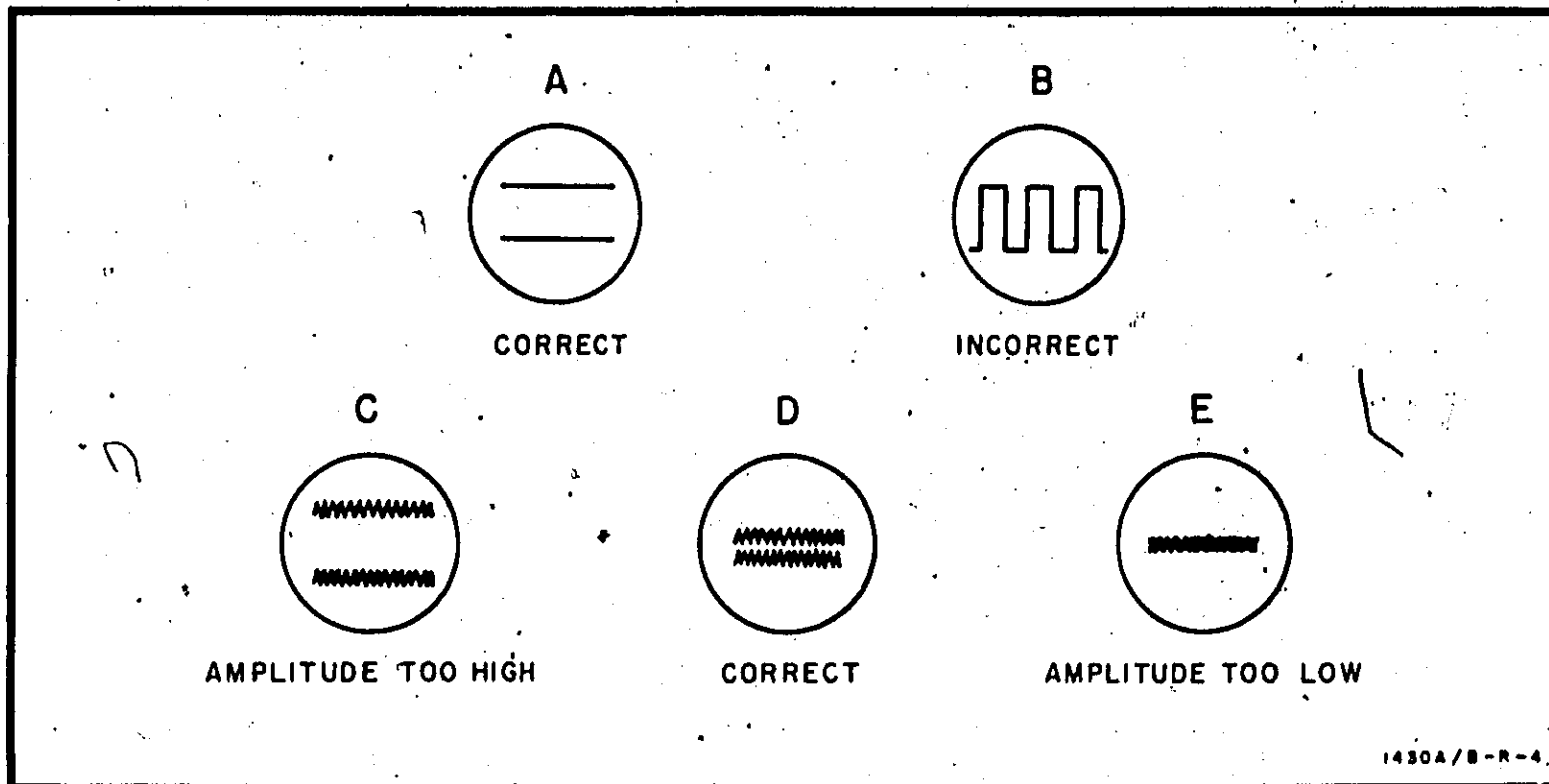

Figure 5-4. Noise Measurement Display
h. Readjust SCAN DENSITY for an incoherent display with minimum flicker. The display should consist of two lines, approximately 1 div apart. If the display consists of a square wave moving across the CRT as at B of Figure 5-4, readjust SCAN DENSITY to obtain a display as shown at A of Figure 5-4.
i. Decrease pulse generator output until a dark band is just visible between the two lines (see Figure 5-4 C, D and E).